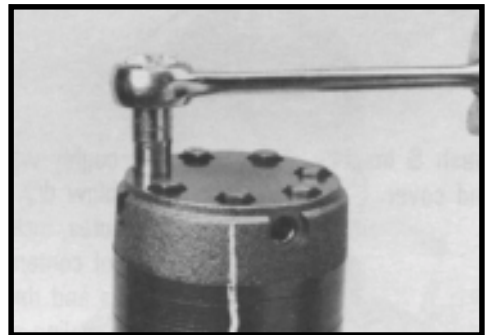
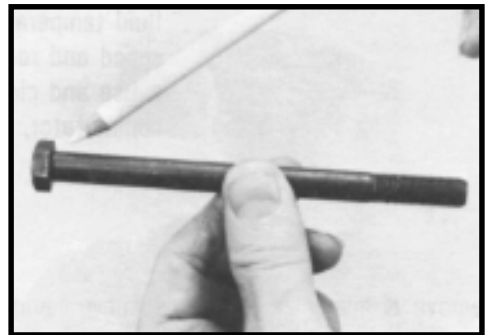

Figure 5
Figure 6
3. Remove the six or seven special ring head bolts (1, 1A, 1B, or 1C) using an appropriate 1/2 or 9/16 inch size socket. SEE FIGURE 5. Inspect bolts for damaged threads, or sealing rings, under the bolt head. Replace damaged bolts. SEE FIGURE 6.